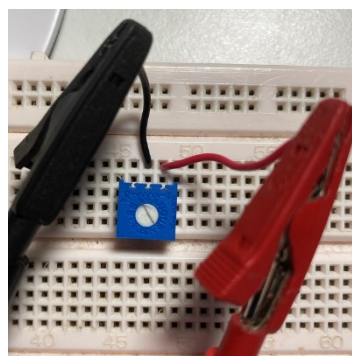

Figure 5: Measuring resistance on a **different part** of breadboard away from circuit.
3. When measuring the resistance between pins 1 and 2, you should place the variable resistor in a different part of your breadboard away from the rest of the circuit (see Figure 5 below). **Never measure the resistance while it is still plugged into the rest of your circuit, because they affect your measurement.** Only after trimming it to the desired resistance value, then you can move it into your circuit.